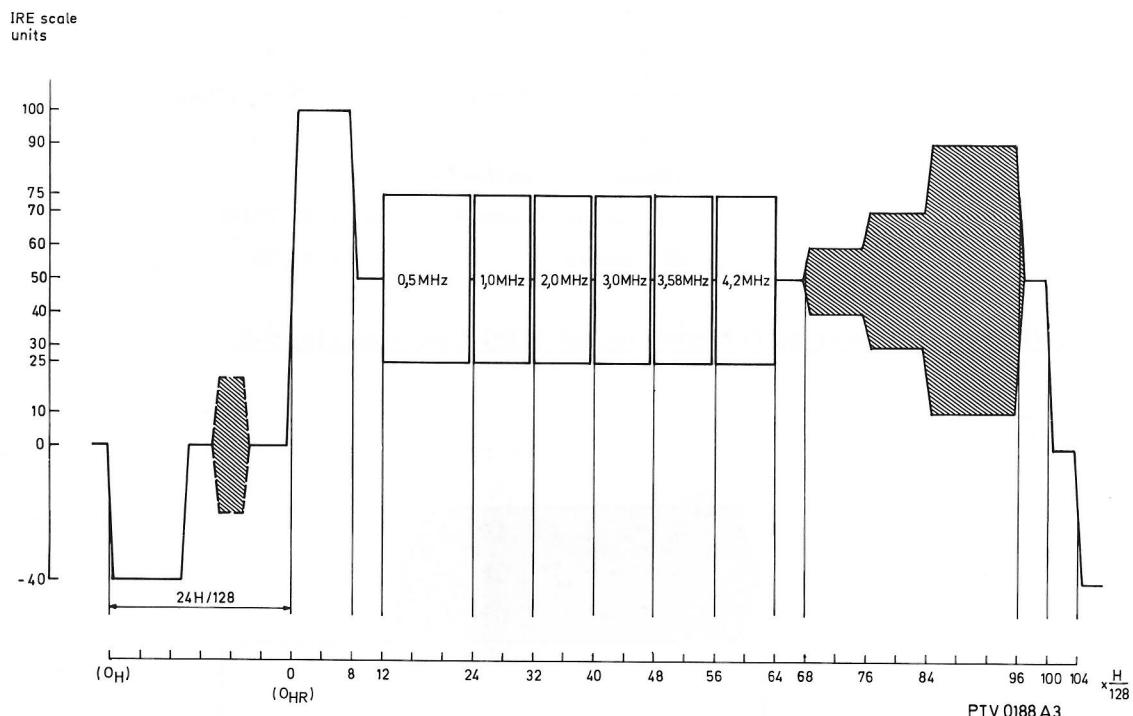

Fig. 3-7 NTC-7 combination
2. (B) NTC-7 combination test signal (See also fig. 3-7)